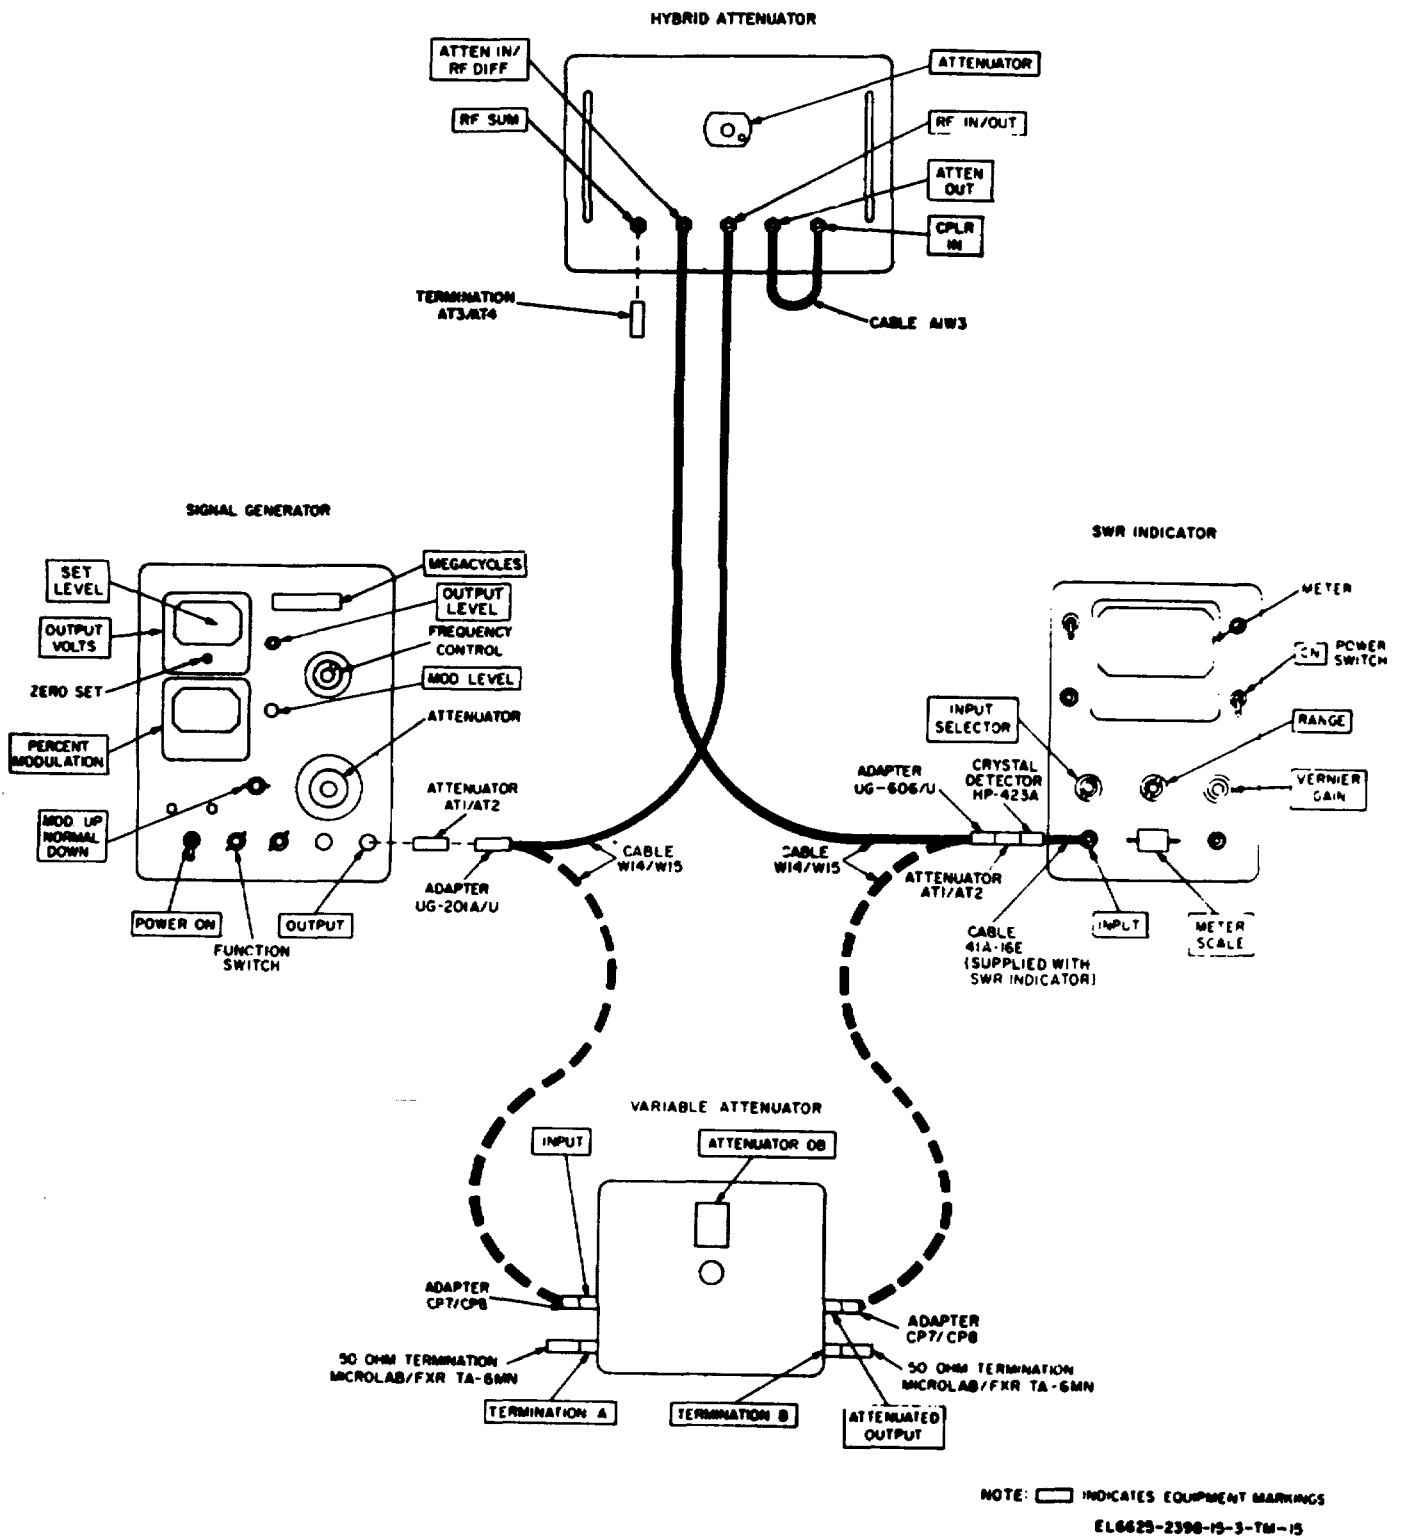

Figure 6-3. Hybrid attenuator difference channel (RF IN/OUT to ATTEN IN/RF DIFF jacks) insertion loss, calibration connections.
(fig. 6-3)
shown in solid lines, (fig. 6-3) and proceed as follows:
(1) On the signal generator, set the MEGACYCLES dial to 1030 with the frequency control knob. Set the function switch to CW, and turn on the signal generator. Allow a minimum of 20 minutes warm-up period before proceeding.
(2) With the METER SCALE set to NORMAL and INPUT SELECTOR set to XTAL200KΩ, turn on the SWR indicator, and allow a minimum of 10 minutes warm-up period before proceeding.
(3) Turn off the signal generator and zero set the OUTPUT VOLTS meter.
(4) Turn on the signal generator, and adjust the OUTPUT LEVEL control knob for an OUTPUT VOLTS meter indication at the SET LEVEL (+4DBM) mark, with the attenuator set to 0dB.
(5) On the signal generator, set the function switch to 1000 the MOD. UP-NORMAL DOWN switch to NORMAL and adjust the MOD. LEVEL control for a reading of 50 on the PERCENT MODULATION meter. Set the hybrid attenuator ATTENUATOR control to 0 (zero). Adjust the SWR indicator VERNIER GAIN control and the RANGE switch for an exact meter reading (e.g., .5 on the DB meter scale). Record the meter reading.
(6) Disconnect the hybrid attenuator under test and connect the variable attenuator, as shown by broken lines, figure 6-3.
(7) Adjust the variable attenuator ATTENUATOR DB control for the same SWR indicator meter reading recorded in step b(5). Insertion loss on ATTENUATOR DB control of the variable attenuator must indicate  $6.51 \pm 1.5$ dB.
(8) Correct the hybrid attenuator calibration tag marking, if incorrect.
(9) Successively increase the ATTENUATOR DB control, from the reading obtained in step (7), by 6, 9, and 12. Record the readings on the meter of the SWR indicator for the variable attenuator ATTENUATOR DB control settings of plus 6dB, plus 9dB, and plus 12dB.
(10) Reconnect the hybrid attenuator, solid lines figure 6-3.
(11) Adjust the hybrid attenuator ATTENUATOR control for the same SWR indicator meter readings recorded in step (12). Insertion losses must be within the following limits:
(12) Reset the signal generator MEGACYCLES dial to 1090 and repeat steps (3) through (7).
(13) Correct the hybrid attenuator calibration tag marking for 1090MHz, if incorrect.
(14) Repeat step (9) using the reading obtained in step (13) for the variable attenuator.
(15) Reconnect the hybrid attenuator, solid lines figure 6-3.
(16) Adjust the hybrid attenuator ATTENUATOR control for the same SWR indicator meter readings recorded in step 14. Insertions losses must be within the following limits: